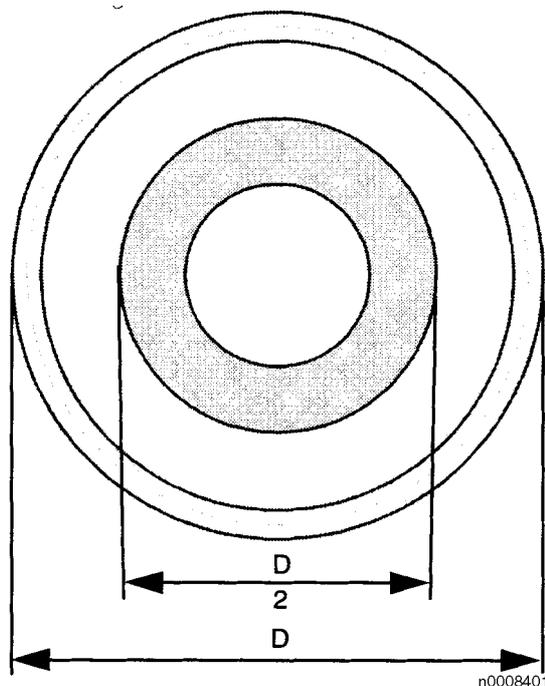

Figure 1
- b. **Gas flame** Concentrate the heating to a circular area around the hub corresponding to about half of the gear wheel diameter, see Fig. 1. If the heat around the hub is to result in an increase in the diameter of the hole, some heat has to be added to the outer edge of the gear wheel. This has to be done with care so as not to damage the hardening of the gear teeth. Proceed with the heating of the gear wheel until the shrinkage gauge can be easily inserted in the hub.